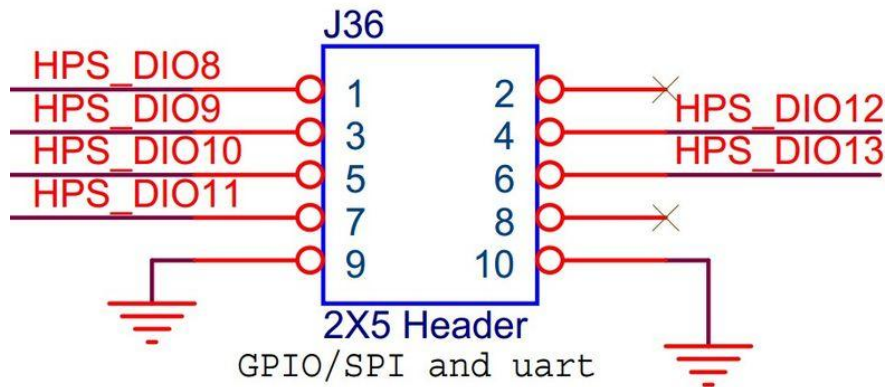

Figure 3-16 GPIO Header Pin location
1. Use jumper cap connect IO8 to IO9 and IO10 to IO11 in hps gpio header(J36) on the HAN Pilot Platform. **Figure 3-16** shows the pin location below.